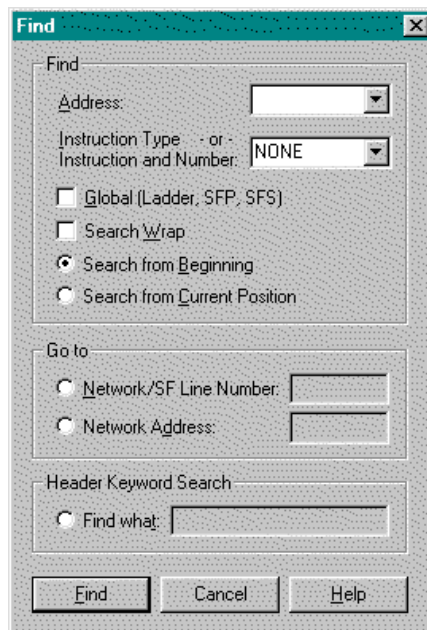

Figure 6.6
4. Click  on the toolbar or select Find from the Edit menu (Ctrl+F), and the Find dialog box appears (Figure 6.6).
1. Click  on the toolbar or select Find from the Edit menu (Ctrl+F), and the Find dialog box appears (Figure 6.6).